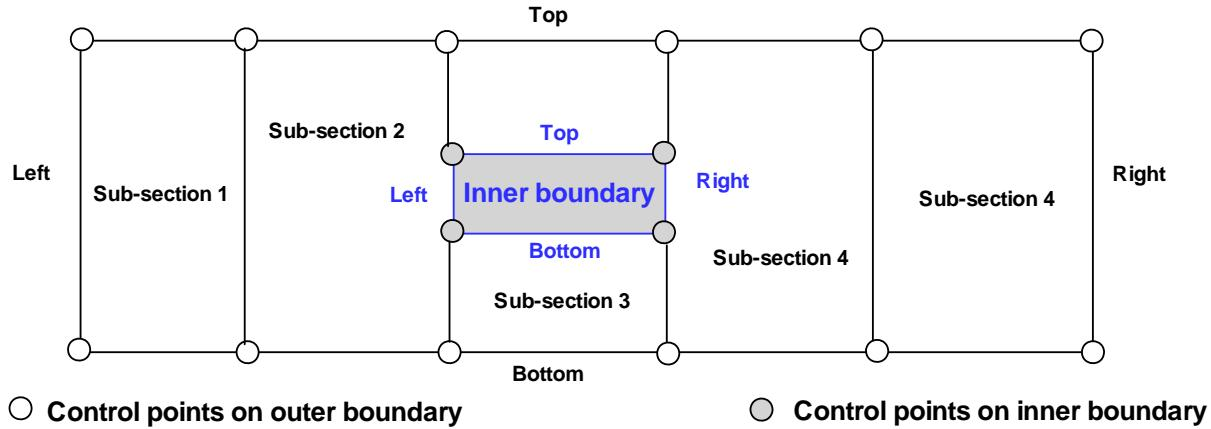

Figure 4-45
- The CCHE-MESH uses a two-boundary method to generate algebraic mesh. As shown in Figure 4-45, the shape of a block domain is controlled by the “top” (**First**) boundary and “bottom” (**Second**) boundary. The whole domain is divided into sub-sections by the control points.